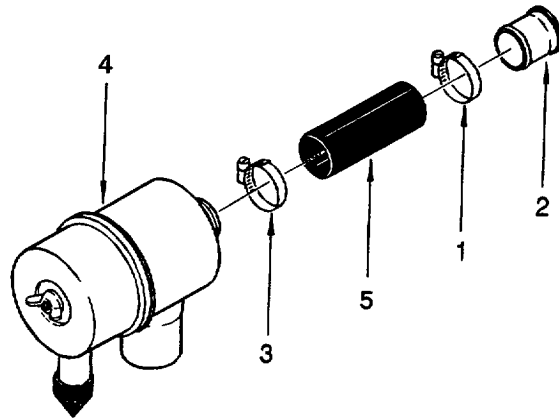

Figure 4-4. Air Filter Hose Replacement
4.9.4 Replace Engine Air Filter Hose. (Refer to figure 4-4.)